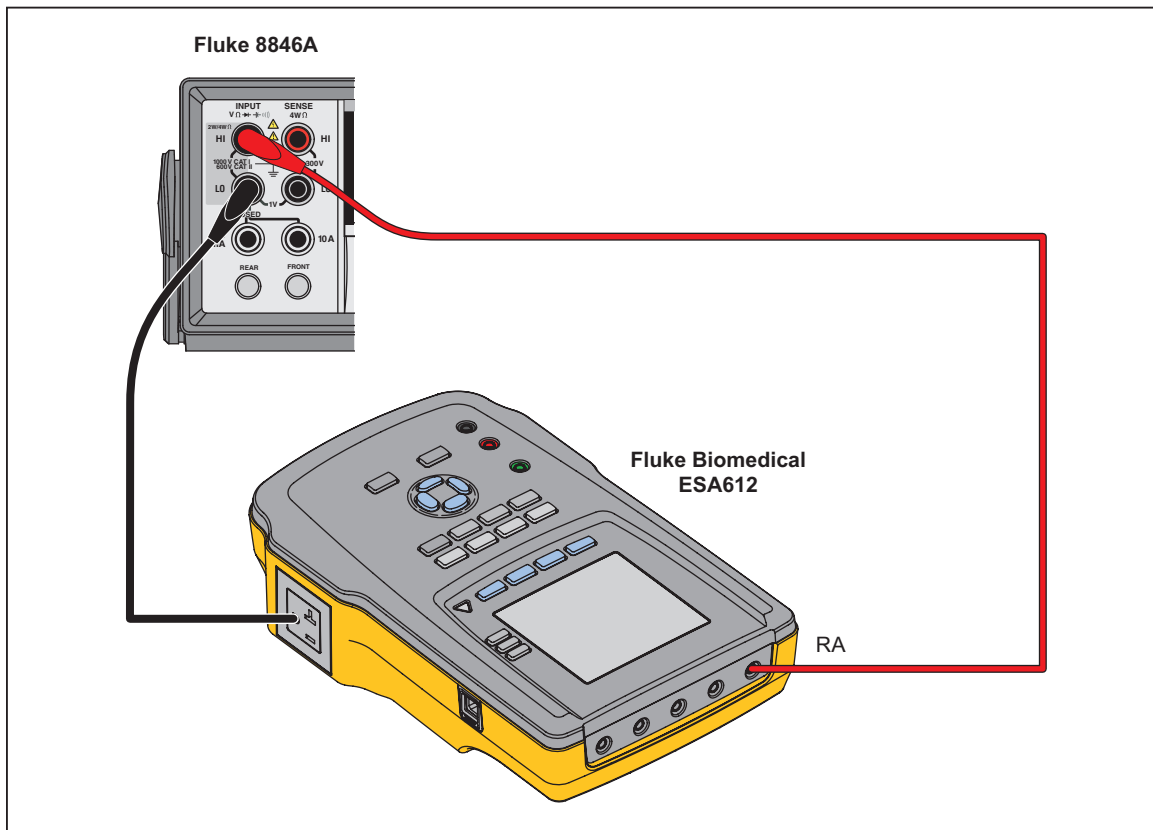

Figure 3-17. ECG Leakage Functionality Connections
1. Connect the DMM Input (+) to the RA applied part. Connect the DMM Input (-) to the EO ground. See Figure 3-17. Set the DMM for 1 K Ω resistance range. During this test, the DMM will function as both a current source and an ohmmeter.